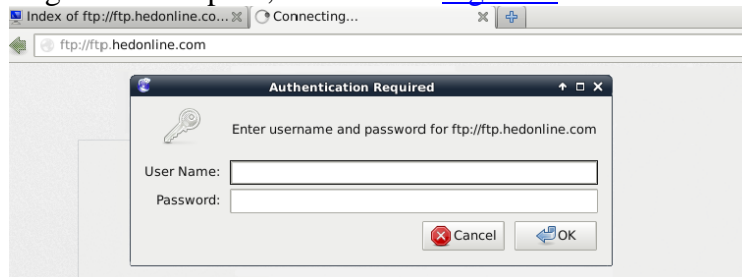

Figure 4: Linux Server Log In Screen
- A server log in screen opens, as shown in Figure 4.